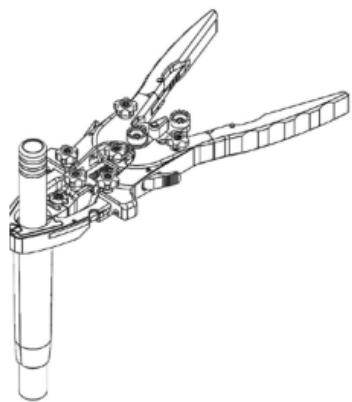

Figure 8
- Slide the retractor blades around the **Black Introducer** (ML-0518), then slide the retractor onto the **18 mm Dilator** (Figure 8). The introducer will assist in placing the retractor smoothly over the **18 mm Dilator**. Once the blades are engaged over the **18 mm Dilator** the **Black Introducer** can be removed.